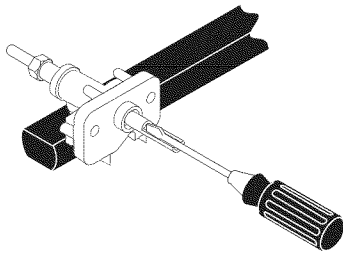

Figure 9
10.4 Adjust the "LOW" Setting of Surface Burner Valves (see Figure 9)